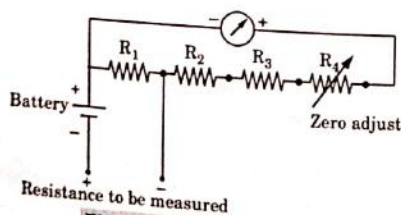

Fig. 4.7.4. Ohmmeter circuit R x 1 range.
1. The Fig. 4.7.4 shows ohmmeter section of multimeter for a scale multiplication of 1.